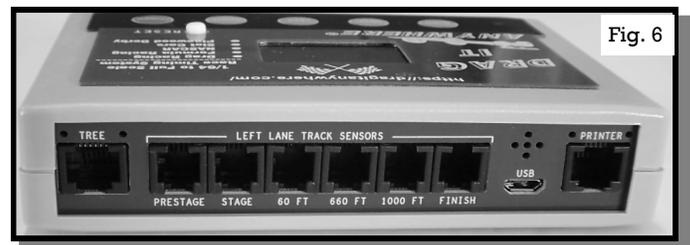

Fig. 6
15. The **TOP Side** or **Printer Side** is the **LEFT Side** of the Track Plug-Ins. Each port either takes a 4C4P or 6C6P, Style Plug. The Connections for each are listed below. Fig. 6
15. The **BOTTOM Side** or **DISPLAY Side** is the **RIGHT Side** of the Track Plug-Ins. Each port either takes a 4C4P or 6C6P, Style Plug. The Connections for each are listed below. Fig. 6